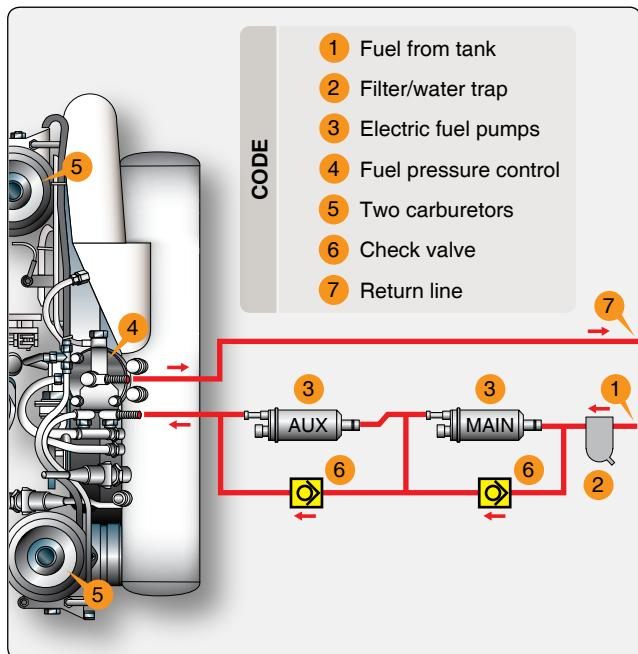

Figure 11-9. Fuel system components.
The fuel flows from the tank (1) via a coarse filter-water trap (2) to the two electric fuel pumps (3) connected in series. [*Figure 11-9*] From the pumps, fuel passes on via the fuel pressure control (4) to the two carburetors (5). Parallel to each fuel pump is a separate check valve (6) installed via the return line (7) that allows surplus fuel to flow back to the fuel tank. Inspection for possible constriction of diameter or